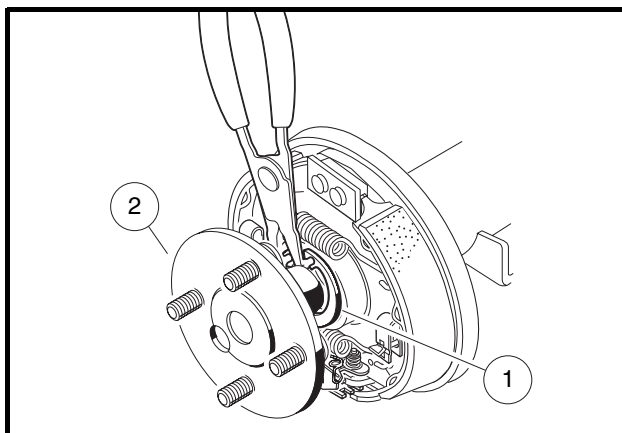
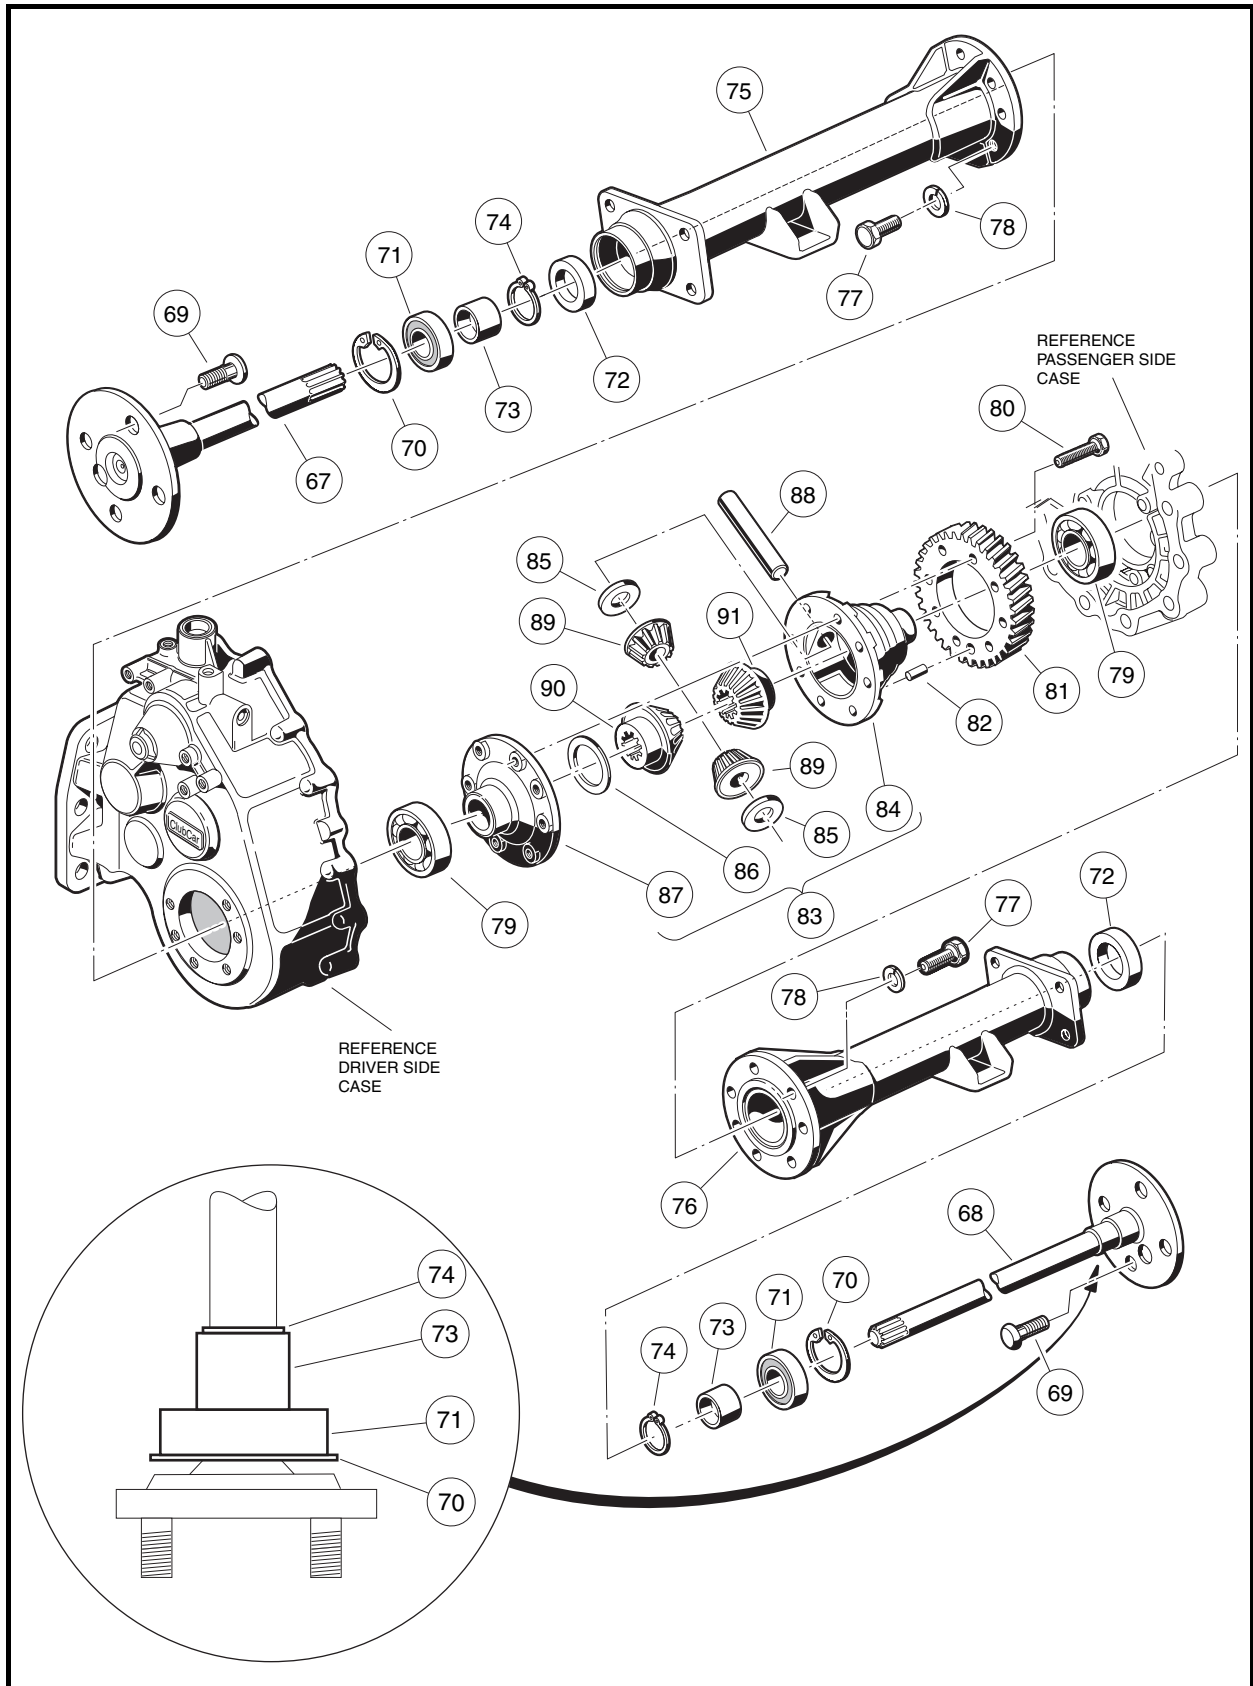
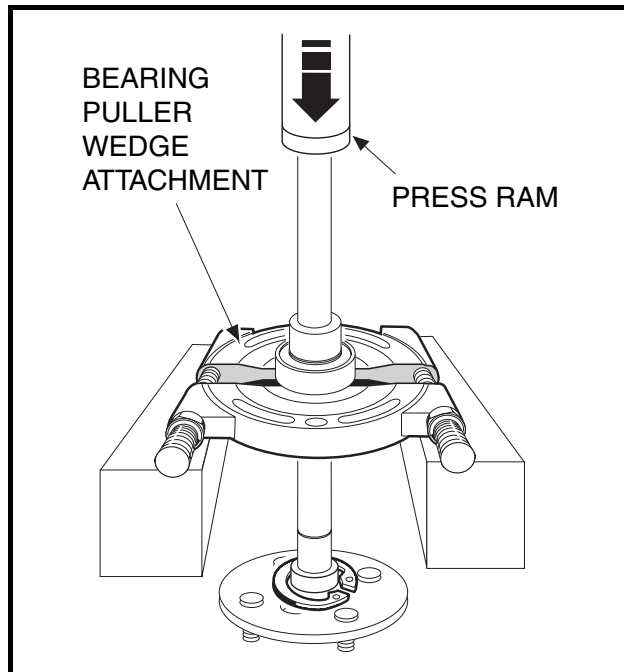
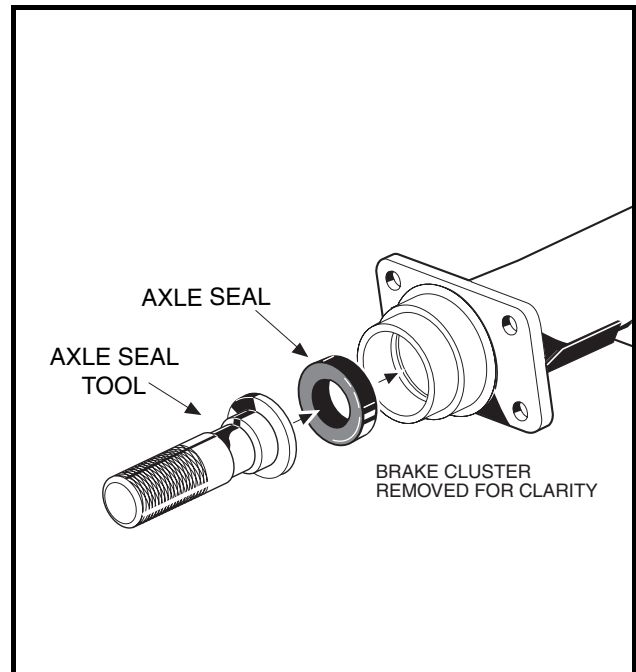

Figure 16-3 Retaining Ring
Figure 16-6 Differential Gear Case/Axle Tubes
Figure 16-7 Bearing and Collar
Figure 16-8 Axle Seal Tool
6. Use 90° internal snap ring pliers (0.090 tip) to remove internal retaining ring (1) from axle tube (**Figure 16-3, Page 16-3**).
7. Carefully pull the axle shaft (2) straight out of the axle tube (**Figure 16-3, Page 16-3**).
9. Inspect the axle shaft assembly to be sure the bearing (71) and collar (73) have not slipped and are still seated against the shoulder on the axle shaft (**Figure 16-6, Page 16-5**).
1. Use external retaining ring pliers (0.047-inch tip) to remove the retaining ring (74). Place a bearing puller wedge attachment (CCI P/N 1012812) on the axle shaft between the wheel mounting flange and the bearing (**Figure 16-6, Page 16-5**). See also **Figure 16-7, Page 16-7**. See following **CAUTION**.
2. Press the bearing (71) and collar (73) off together (**Figure 16-6, Page 16-5**). See also **Figure 16-7, Page 16-7**. See following **NOTE**.
Do not remove the large axle retaining ring (70) from the axle (**Figure 16-6, Page 16-5**). Since the inner diameter of the retaining ring (70) is smaller than the outer diameter of the bearing (71), the ring must be in place on the axle before a new bearing and collar are pressed on.
1. Ensure that the retaining ring (70) is loosely placed on the axle shaft. **See preceding NOTE.**
2. Install a new axle bearing (71) on axle (67 or 68). Push bearing onto axle until bearing is flush against axle shoulder (**Figure 16-6, Page 16-5**).
4. Place a new sealed bearing (71) on shaft (67 or 68) (**Figure 16-6, Page 16-5**).
5. Install collar (73) onto axle shaft. Place axle assembly on bearing puller wedge attachment and press collar onto axle.
7. Use external snap ring pliers (0.047-inch tip) to install collar retaining ring (74) (**Figure 16-6, Page 16-5**).
1. Clean bearing and seal seats in axle tube (75 or 76) (**Figure 16-6, Page 16-5**).
2. Place a new oil seal (72) in axle tube with seal lip facing inside of the axle tube (**Figure 16-6, Page 16-5**). Use an axle seal tool (CCI P/N 1014162) to press it in until it seats firmly in position (**Figure 16-8, Page 16-7**). **See following NOTE.**
4. Install the bearing retaining ring (70) in the axle tube (**Figure 16-6, Page 16-5**). **See also Figure 16-3, Page 16-3.**